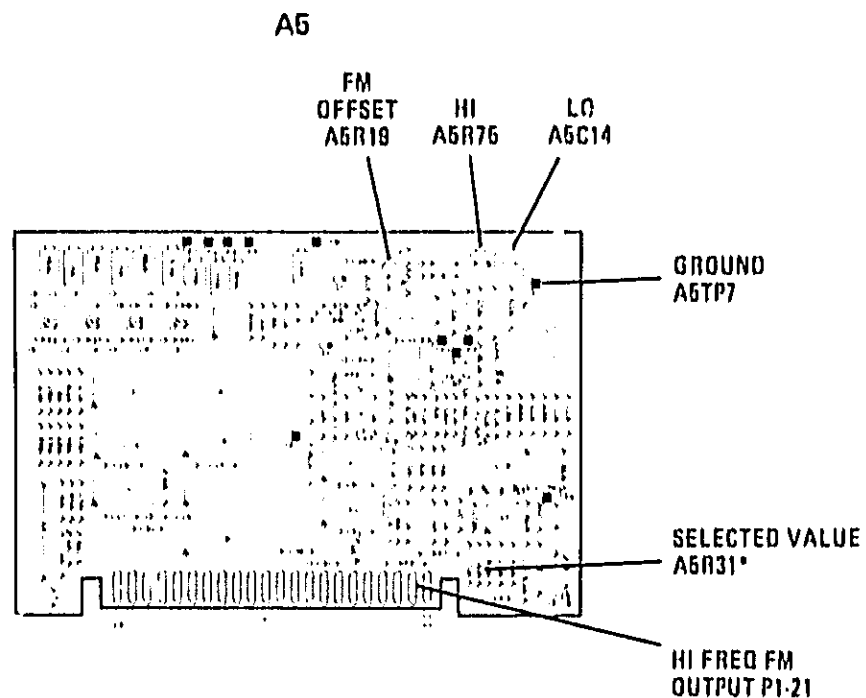
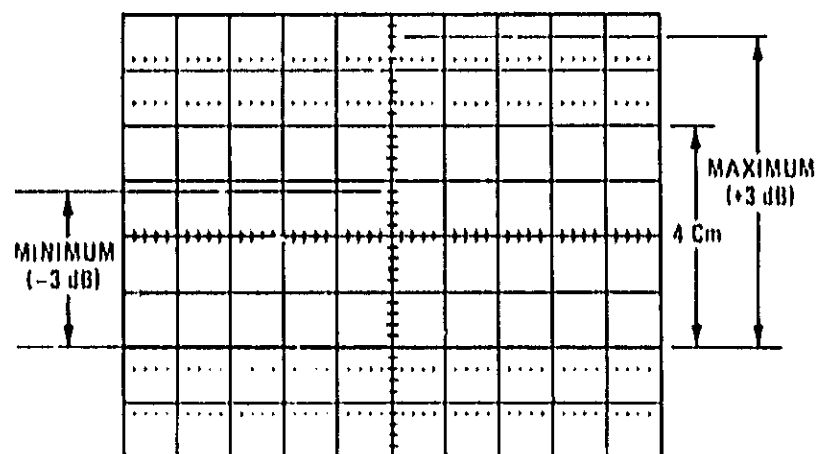

Figure 5-40. Location of A5 FM Driver Adjustments
Figure 5-41. FM Flatness Tolerance, DC to 2 MHz
2. Connect the DVM between A5 pin 21 and A5TP7 (HIGH FREQ FM RET). Refer to Figure 5-40 for adjustment procedure locations. Adjust A5R19 (FM OFFSET) for a DVM reading of 0.000 ± 0.001 Vdc.
6. Manually sweep the Function Generator frequency from DC to 100 kHz. Select resistor A5R31 so that the amplitude of the CRT waveforms at Function Generator frequencies of 100 Hz and 100 kHz are the same ± 0.2 divisions on the CRT. Refer to Figure 5-40 for A5R31 location. Refer to Table 5-3 for the allowable range of values for A5R31.
7. Manually sweep the Function Generator frequency from DC to 10 MHz. Adjust A5C14 (LO) and A5R75 (HI) controls to obtain the most constant overall response from DC to 10 MHz. Repeat this step several times.
8. Check that the ± 3 dB FM flatness supplemental characteristic is met between DC and 2 MHz as follows. Manually sweep the Function Generator frequency between DC and 2 MHz. On the oscilloscope, note the maximum and minimum response points as shown in Figure 5-41. Maximum point (+3dB) can be up to 5.6 divisions, and minimum point (-3 dB) can be down to 2.8 divisions.